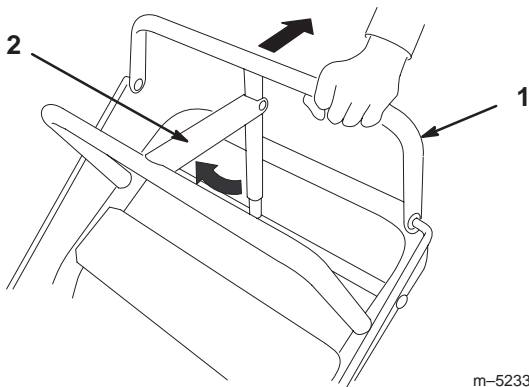

Figure 9
5. Check parking brake adjustment. Brake rods should be adjusted so parking brake lever is tight when swung into position against the fixed bar while pulling back on upper control bar (Fig. 9).